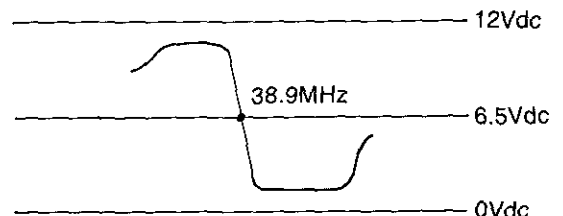

Figure 11
- (1) Change the coupling of the input terminal of the alignment scope from the pin 22 to the pin 17 of P101.
- (2) Adjust the sweep waveform of the alignment scope as shown in figure 11.
- (3) Adjust L104 to place the 38.9MHz marker at the position or D.C. $6.5V \pm 0.5V$ as shown in figure 11. Be sure to adjust after disconnecting C164 from the AFT terminal.